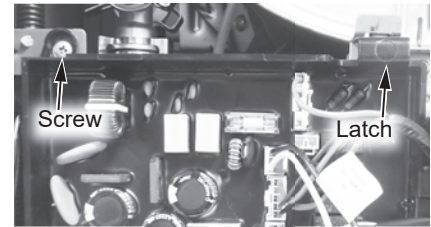

Figure 267 - Control board location
- 6** Locate the two (2) screws at the bottom of the cabinet cover. Use a Phillips screwdriver to remove the screws. Place screws aside in a safe place for reinstallation.
- 8** Locate the screw securing the control board panel as shown in Figure 267. Use a Phillips screwdriver to remove the screw and place it aside in a safe place for reinstallation.